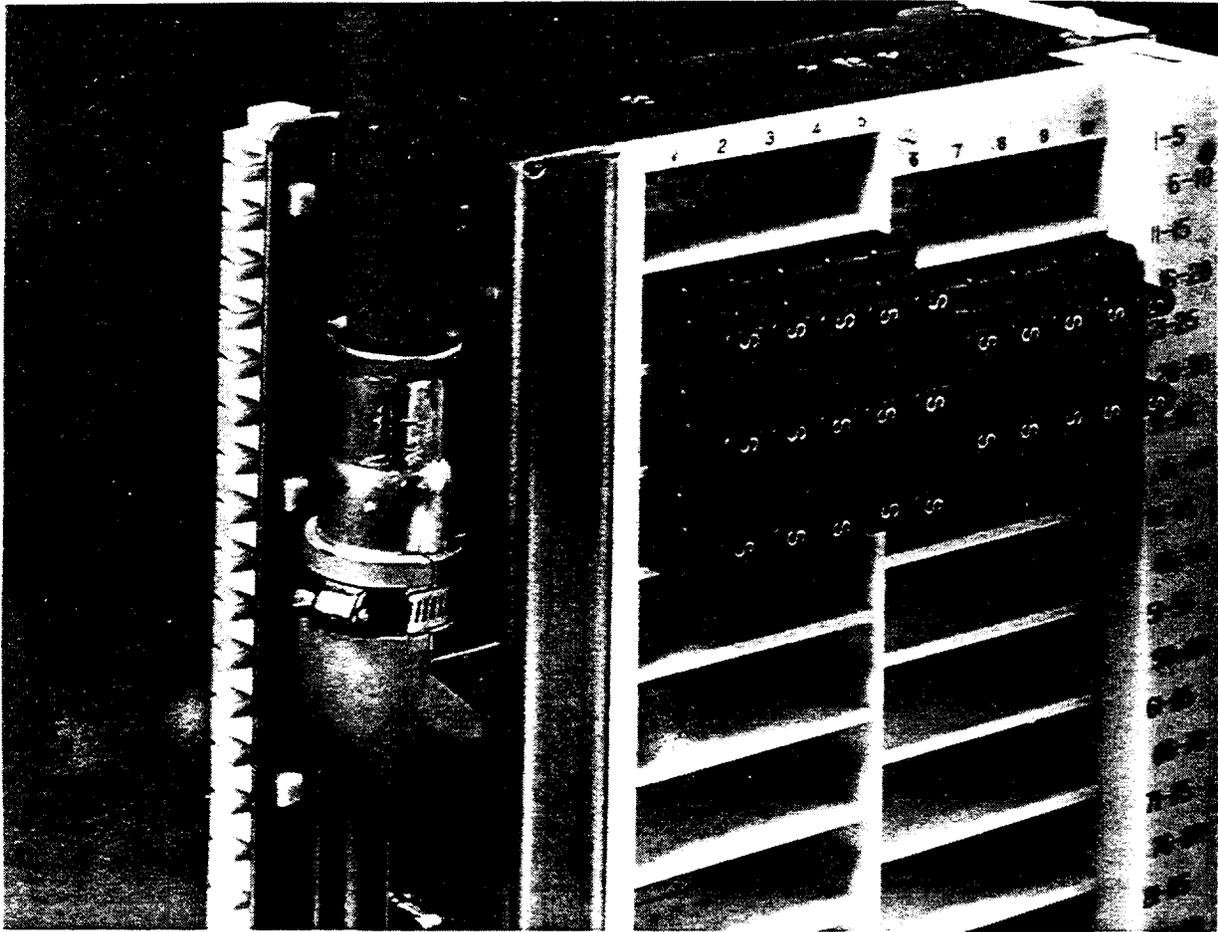

Figure 27. Left Side View 310L/ML UL Listed Connector
**7.03** The UL Listed 310L- and 310ML-series connectors are all equipped with 26-gauge (0.4 mm) stub cables to facilitate UL's fusing (fuse length) requirement. The stub cables are attached to the connector with a special swivel type metal coupling (Figure 27) which encases all the individual cable conductors. The loose wire conductors inside the connector (between the swivel coupling and the appropriate outside plant terminal of the protector panel) serve as the fuse length.